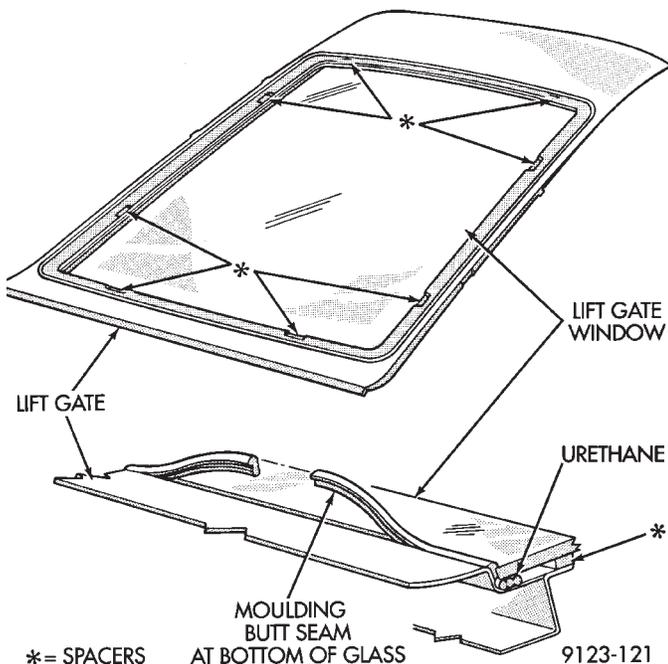

Fig. 35 Lift Gate Window Glass
REMOVAL (FIG. 35)
- (1) Prepare the work area, window fence, and glass the same way as described in the Windshield section of this group.
- (2) Place the fence spacers at the locations shown (Fig. 35).
- (3) Apply a 10 mm (0.4 in.) bead of urethane around the perimeter of the glass.
- (4) Install the glass in the same manner described in the Windshield section of this group.
- (5) Install the rear window moulding. Apply 50 mm (2 in.) masking tape over moulding to assure alignment.
- (6) Connect rear window defogger wiring and install lift gate trim.